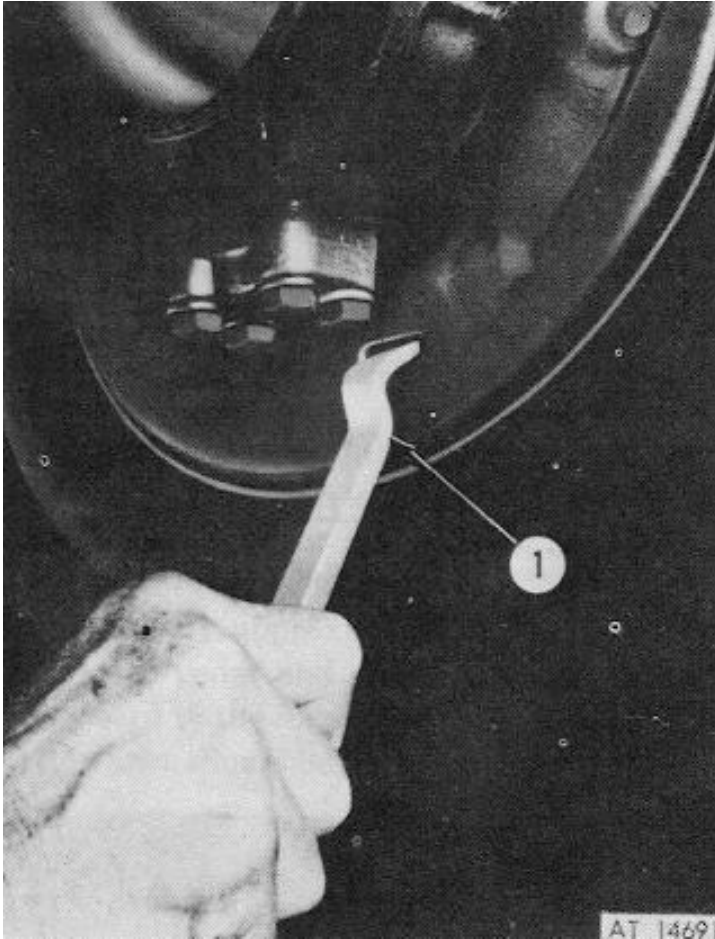

Figure 2-78. Brakeshoe adjustment
a. Service Brake Adjustment. (Fig 2-78)
(1) Centralize the brakeshoes in the drums by depressing the brake pedal hard and then releasing it. Since the brakes are of the self-centering type, they require no anchor adjustments.
(2) Hoist all four wheels off the ground.
- (3) Remove the adjusting hole dust clip from the back of the brake backing plate.
- (4) Use Brake Adjusting Tool to turn the star wheel. Raise the handle of the tool to tighten the shoes against the drum.
- (5) When the brakeshoes are tight against the drum, turn the star wheel in the opposite direction until the vehicle wheel just rotates freely without brake drag.
- (6) Repeat the above procedure for all four wheels.